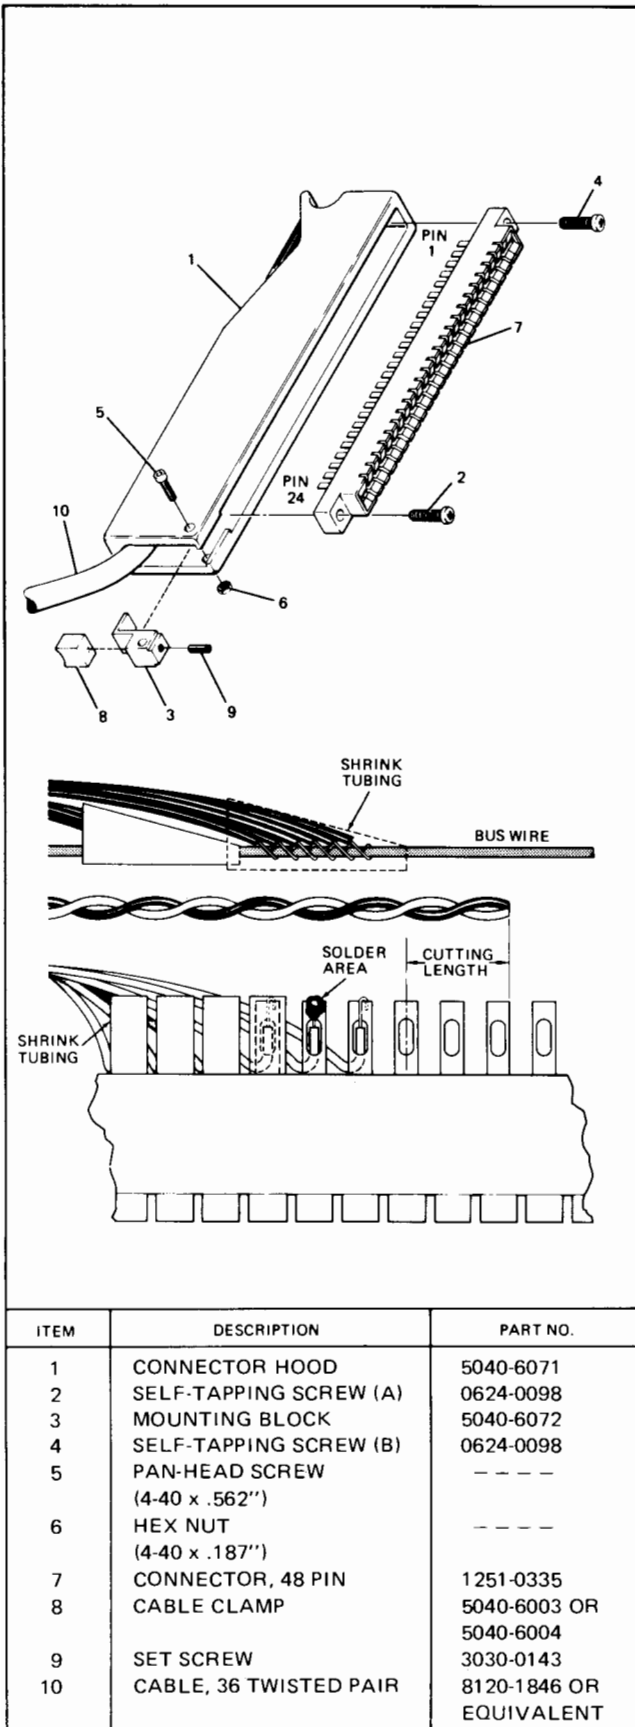

Figure 2-2. Cable Fabrication Diagram and Parts List
(1) Solder the six colored signal wires to their respective pins on the connector and insulate each pin with tubing as shown in figure 2-2.
(2) Solder the six white ground wires to the bus wire and insulate with shrink tubing as shown in figure 2-2.
f. Repeat substeps (1) and (2) with the remaining groups of wires until all wires are soldered to the connector and insulated.